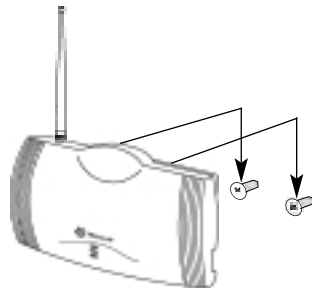

Figure 4 - Mount the SX4e onto the screws in the wall.
- 3) Mount the FWT onto the screws - **see Figure 4**.